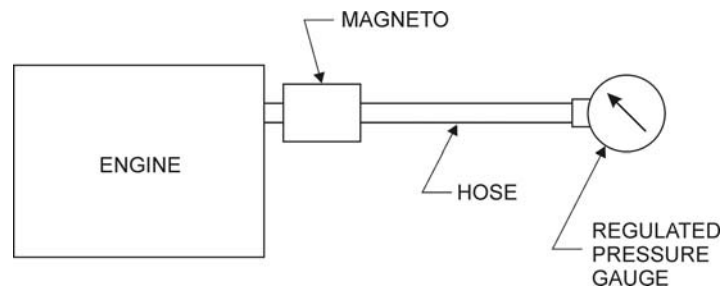

Figure 5. Alternate Relief Valve and System Check for (L)TIO-540 Series Engines
D. Alternate Relief Valve and System Check (Figure 5 and 6):